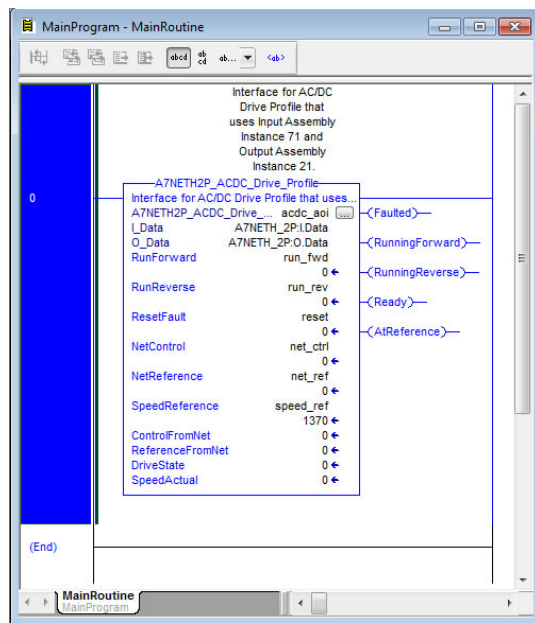

Figure 54: Configure AC/DC Drive Profile AOI
- 10) Edit the add-on instruction according to Figure 54.